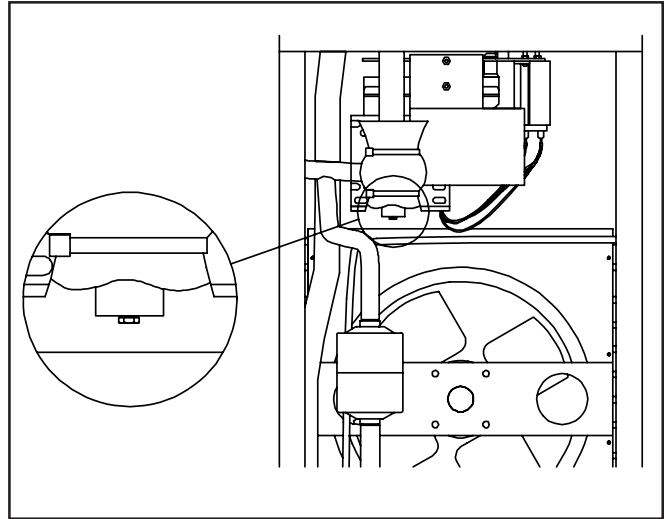

Figure 36. Adjust A.X.V.
7. Remove the cap the the A.X.V. and, using a small wrench, turn the adjusting screw 1/4 turn (90°) counter-clockwise for more cooling or 1/4 turn (90°) clockwise for less cooling (Fig. 36.)